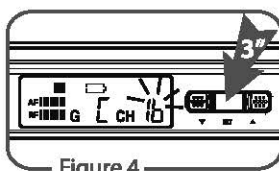
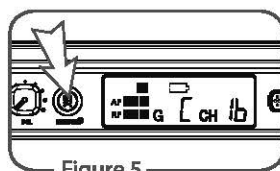

Figure 4
Figure 5
- (1) Press "Set" button ⑤ for 3 Seconds, the group (G) in the "Group & Channel" ④ area will flash. (Figure 4)
- (2) Press "▲Up" ③ or "▼Down" ② button to select a desired group
- (3) Press "Set" again and the Channel (CH) in the "Group & Channel" area will flash.
- (4) Press "▲Up" or "▼Down" button to select a desired channel.
- (5) After setting, press "Set" again to save the settings.
- (6) Press "REMOSET" ⑦ to synchronize the channel of a transmitter. (Figure 5)
- (7) If the channel of the transmitter fails to change, the "REMOSET" key will keep flashing.